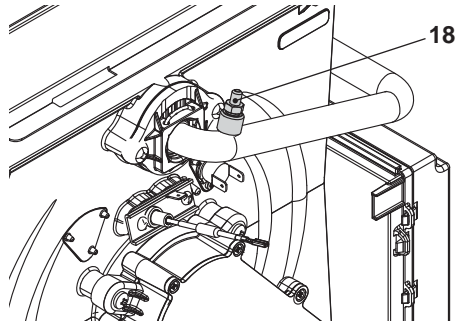

Fig. 7.2
- Unscrew the condensing heat exchanger air purger valve 18(Fig. 7.2).
- Close the condensing heat exchanger air purger valve 18(Fig. 7.2) when water begins to flow out.